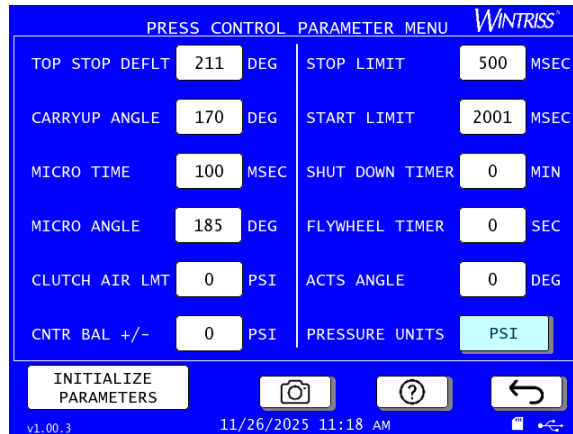

Figure 3-13. Press Control Parameter Menu
3. Press PRESS PARAMETERS. The press control parameter menu appears, Figure 3-13.
In the press control parameter menu, Figure 3-13 (previous section), press the button next to PRESSURE UNITS repeatedly to show the pressure unit options until the one you want appears.